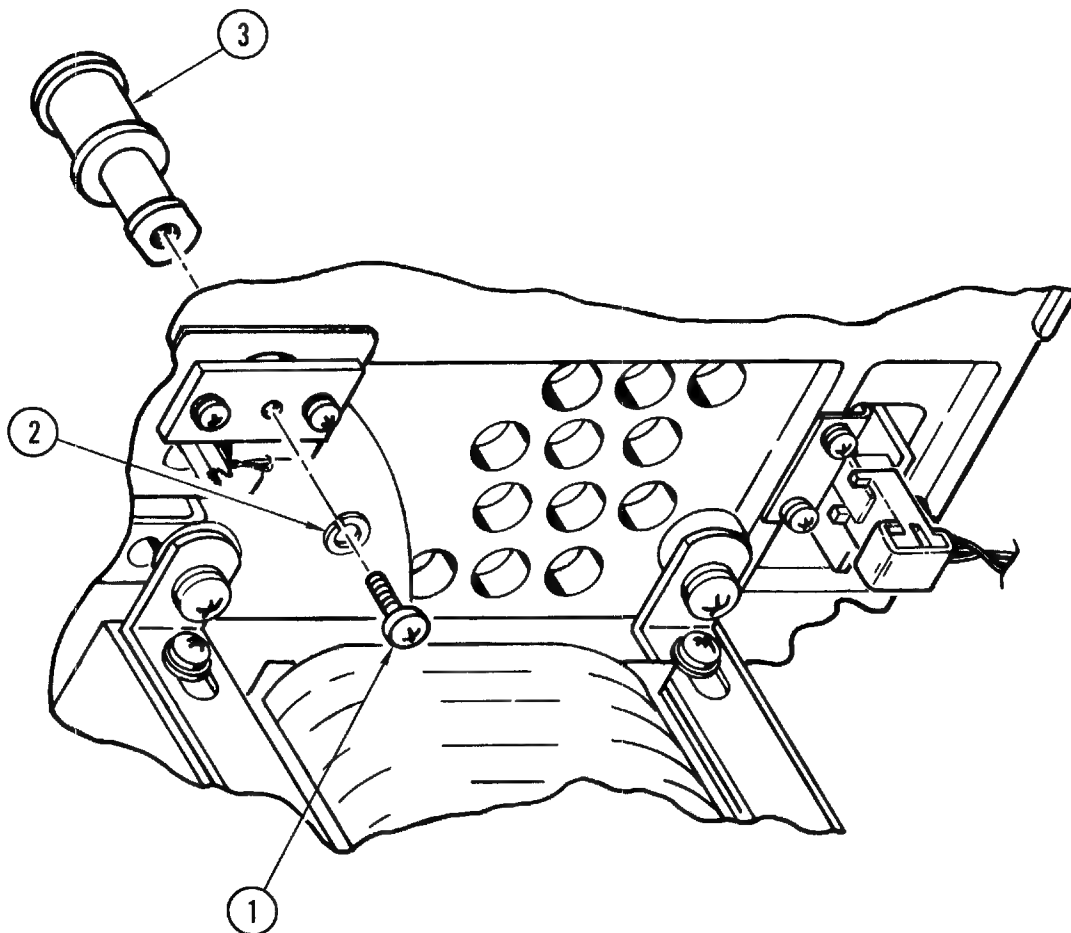

Figure 4-21. Tape Guide Assembly (Solid)
4-35. Removal and Replacement (Figure 4-21). Place the transport in service access position (paragraph 4-3) and proceed as follows:
- a. Remove attaching screw (1, Figure 4-21) and lockwasher (2), and leaving shims in place remove tape guide assembly (solid) from top of top plate. Save attaching parts for reinstallation.
- b. Reinstall tape guide assembly (solid) (3) in reverse order of step a.